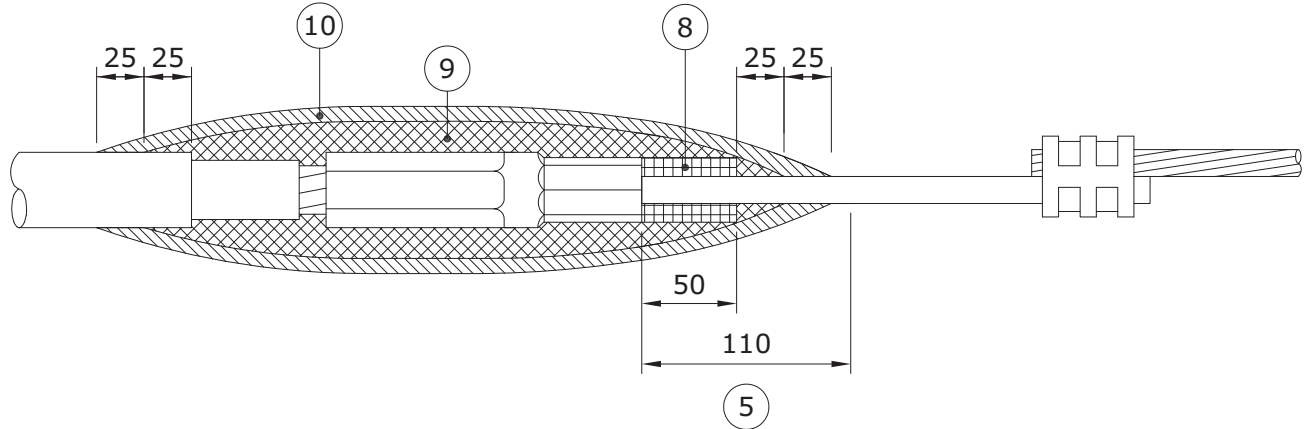

FIGURE 2
- 8 APPLY THE PRECUT STRIP OF RUBBER MASTIC TAPE 1/4 STRETCHED, SHINING SIDE DOWN ONTO THE ROD AS SHOWN IN FIGURE 2.
- 9 APPLY 2 LAYERS OF HALF LAPPED 3/4 STRETCHED SELF AMALGAMATING ETHYLENE PROPYLENE RUBBER TAPE (S.C.# 78 55 23) AS SHOWN IN FIGURE 2.
- 10 APPLY 2 LAYERS OF HALF LAPPED 3/4 STRETCHED COLD WEATHER VINYL TAPE (S.C.# 78 55 98) AS SHOWN IN FIGURE 2.